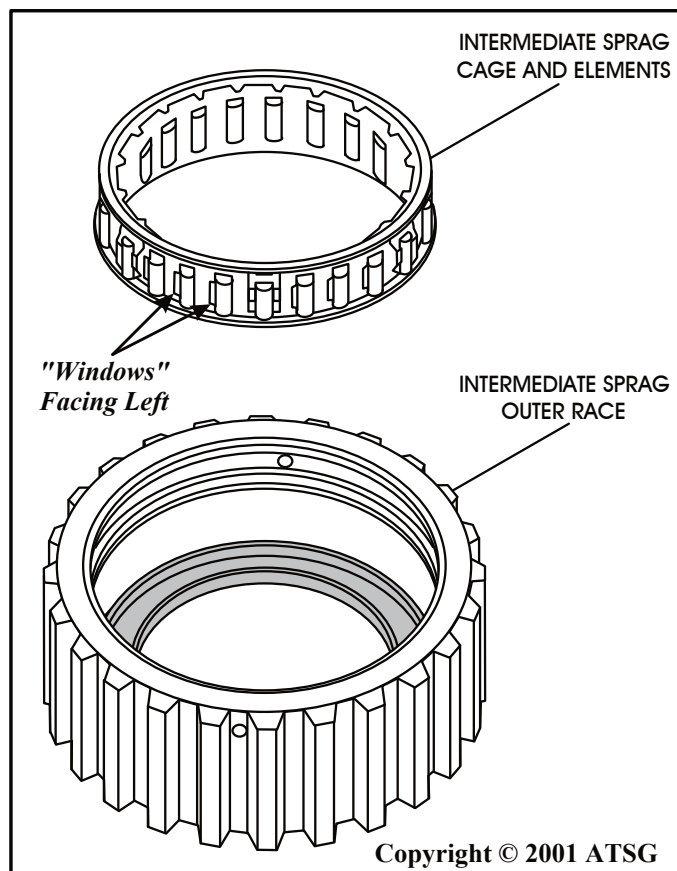

Figure 106
7. Install the intermediate sprag cage and element assembly into the outer race, with "Windows" ***facing to the left***, as shown in Figure 106.
- CAUTION: The "Windows" must face in the direction shown in Figure 106, for sprag rotation to be correct.***